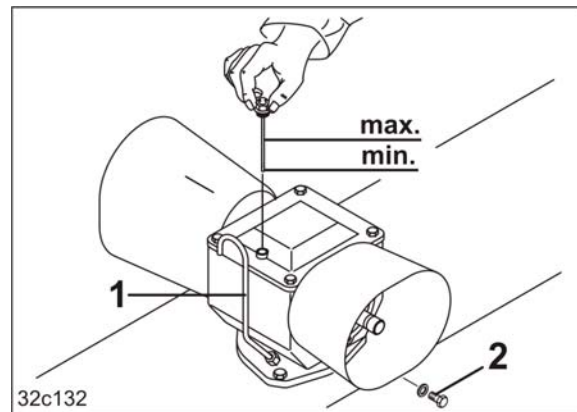

Fig. 176
The gearbox is equipped with a vent pipe (**Fig. 176/1**).
3. Unscrew the oil drain screw (**Fig. 176/2**).